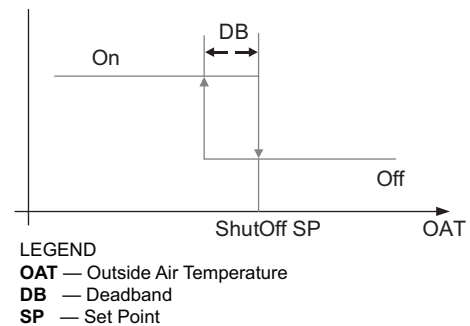

Fig. 22 — Hysteresis Settings
Hysteresis setting (DB) defaults to 2°F. Refer to Fig. 22.